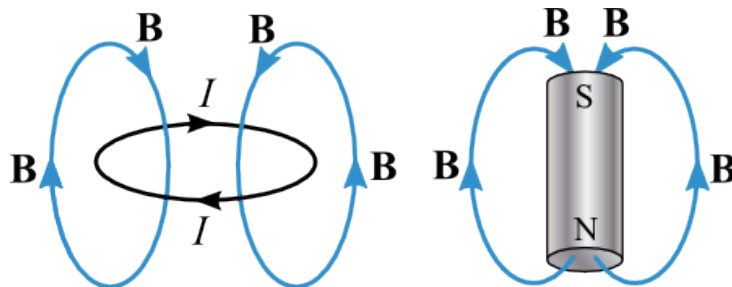

Figure 3
Current loops behave as *dipoles*. A loop of area, A , has a dipole moment, $\boldsymbol{\mu} = I\mathbf{A}$, where \mathbf{A} points normal to the loop and in the direction given by the right-hand thumb if the fingers point along the current direction. For dipoles, \mathbf{B} drops as $1/r^3$, at large r . We see this specifically for the circular loop since the field in Equation (3) becomes $\frac{\mu_0 N I R^2}{(2x^3)}$ at large x . From a distance, the loop field is equivalent to that of a small permanent magnet as in Figure 3. (The permanent magnet does have two poles, hence the name dipole.)